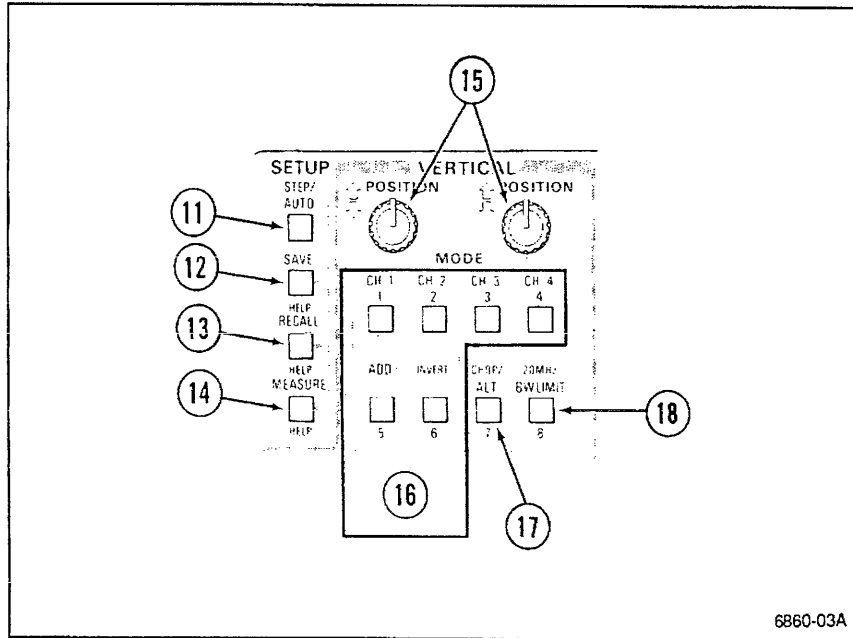

Figure 5-2. SETUP and MODE buttons, and CH 1 and CH 2 POSITION controls.
Refer to Figure 5-2 for the location of items 11 through 18.
①④ **MEASURE